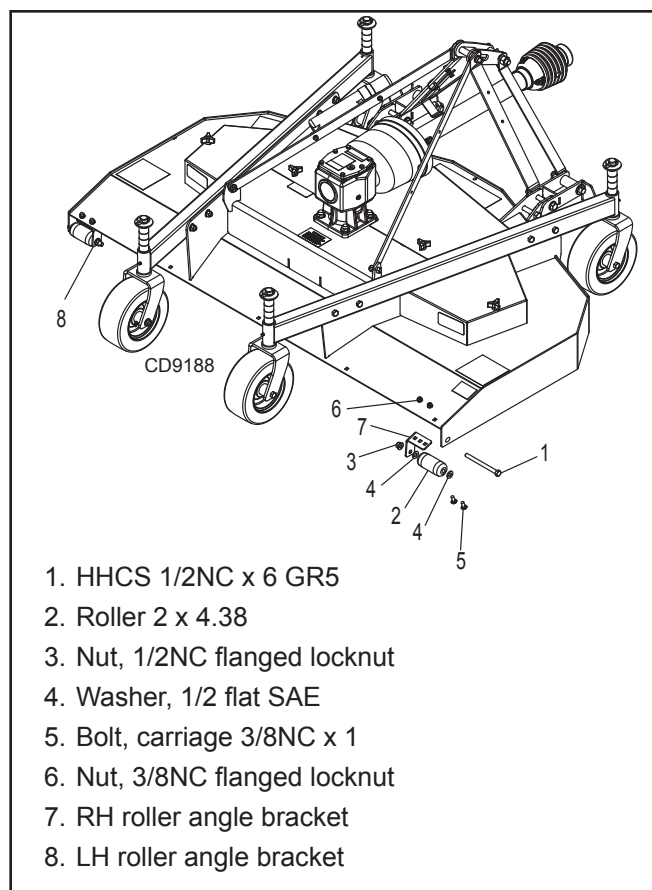

Figure 35. Rear Anti-Scalp Roller Installation
2. Use opposite roller angle bracket for drill template. Position RH roller angle bracket (7) at LH rear corner of deck. Position LH roller angle bracket (8) at RH rear corner of deck. Insert carriage bolts (5) thru center bracket hole and chain shield hole in deck. Retain with flanged lock nuts (6).
4. Unbolt roller angle brackets and swap to their proper side. Reinstall each bracket using chain shield hole and bracket hole for the widest spacing. Use carriage bolts (5) and flanged lock nuts (6) to retain. Mark inboard-most mounting hole for each roller bracket. Use drill and 7/16" drill bit to drill thru deck plate. Install second carriage bolt (5) thru bracket and retain with flanged lock nut (6).
5. Install plastic roller (2) and two flat washers between roller angle bracket and side frame as shown in Figure 35. Install 1/2 x 6 cap screw (1) through side frame, roller, and then angle bracket. Retain with flanged lock nut (3). Do not over tighten. Rollers must turn freely.